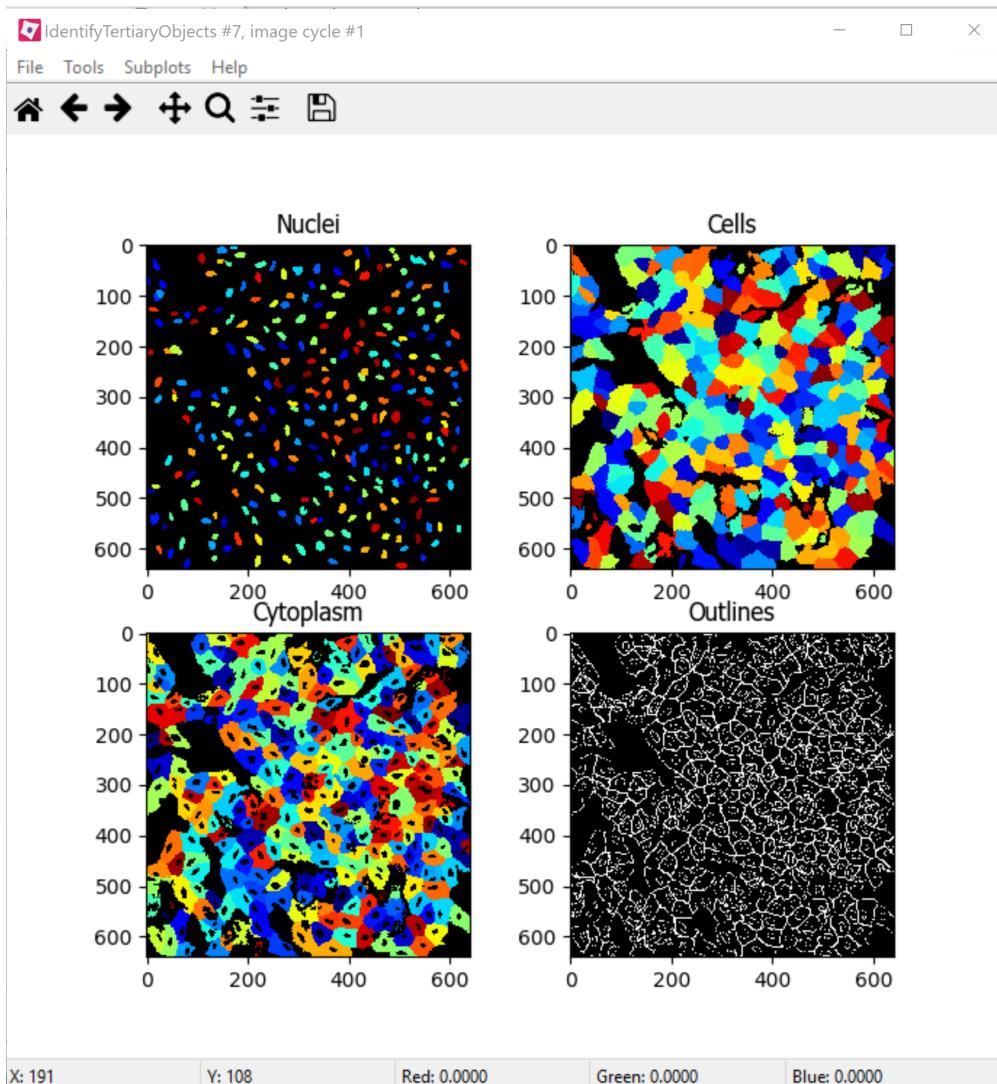

Figure 5: Example module display window for IdentifyTertiaryObjects.
- Click the “Step” button to execute the module, and preview the results of tertiary object identification (Fig. 5).